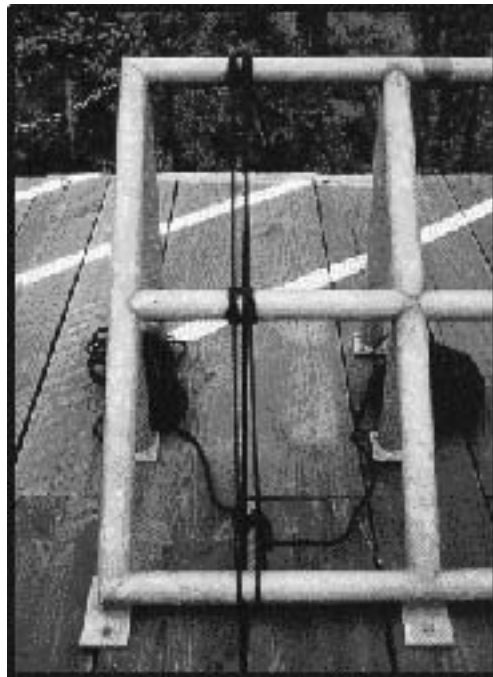

Figure 3-2. Three Anchor Points
(1) All rope stations will be rigged with three (3) anchor points (Figure 3-2) using the appropriate knots. All anchor points must be certified as being load tested to 5,000 pounds. Note: all towers are designed differently and require the use of different anchor knots. Take all slack out between knots to create equal tension on all three anchor points. A maximum of ten feet of rope will be on the deck during static tower rappelling to minimize the possibility of the rope being stepped on.